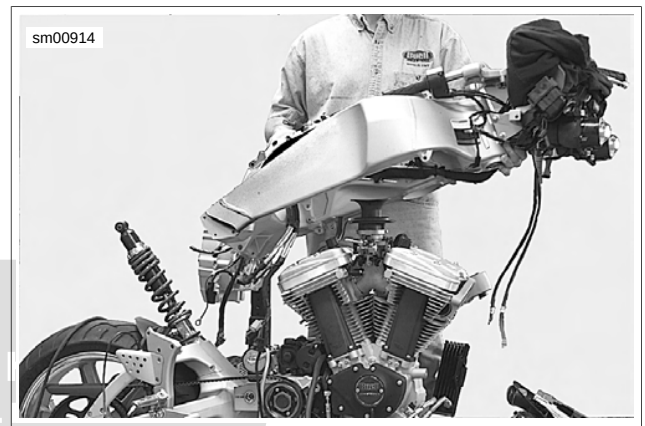

Figure 2-116. Lift Frame Off Motorcycle
10. See Figure 2-116. Lift and remove frame from the motorcycle.